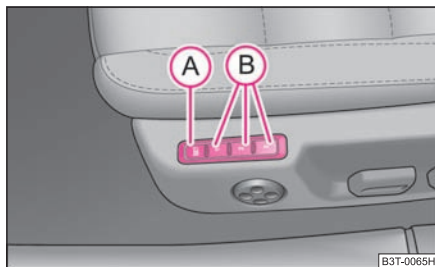

Fig. 64 Driver seat: Memory buttons and SET button
- Press button **SET** (A) ⇒ fig. 64.
- Press one of the memory buttons (B) within 10 seconds after pressing the button **SET** - an acknowledgement signal confirms that the seat setting is stored.
Memory for the seat offers the possibility to store the individual driver seat and exterior mirror position. An individual position can be allocated to each of the three memory buttons (B) ⇒ fig. 64, that is three in total. After pressing the corresponding memory button (B), the seat and the exterior mirror are automatically moved into the positions which have been allocated to this button ⇒ page 74.
- **One-touch automatic memory:** Briefly press the desired memory button **(B)** ⇒ page 73, fig. 64. The seat and exterior mirror are moved automatically into the stored positions (this applies only if the ignition is switched on and the speed is less than 5 km/h).